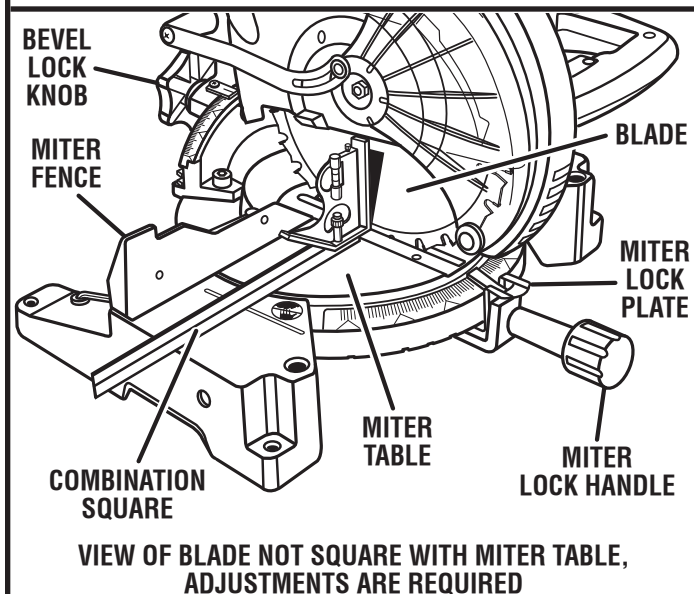

Fig. 23
- If the top or bottom of the saw blade angles away from the square as shown in figures 23 and 24, adjustments are needed.